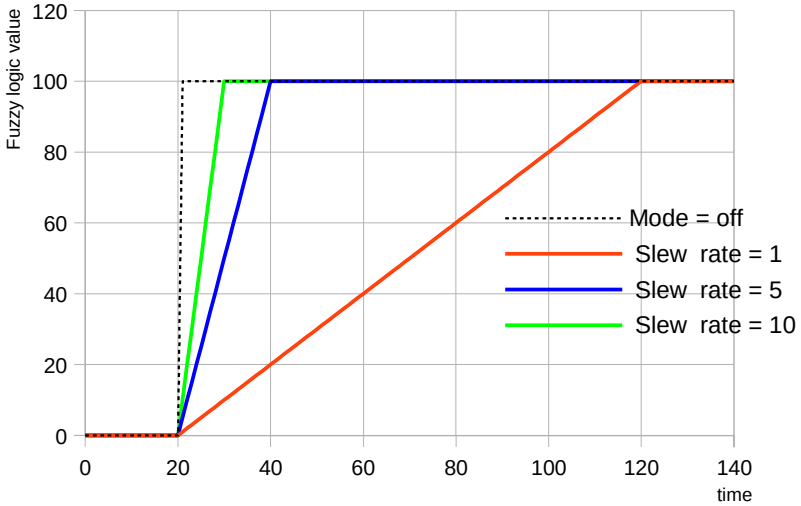

Fig. 7.118. Change of fuzzy logic value according to **Slew rate** parameter
- **Slew rate** – defines the slew rate, (see **Fig. 7.118**),